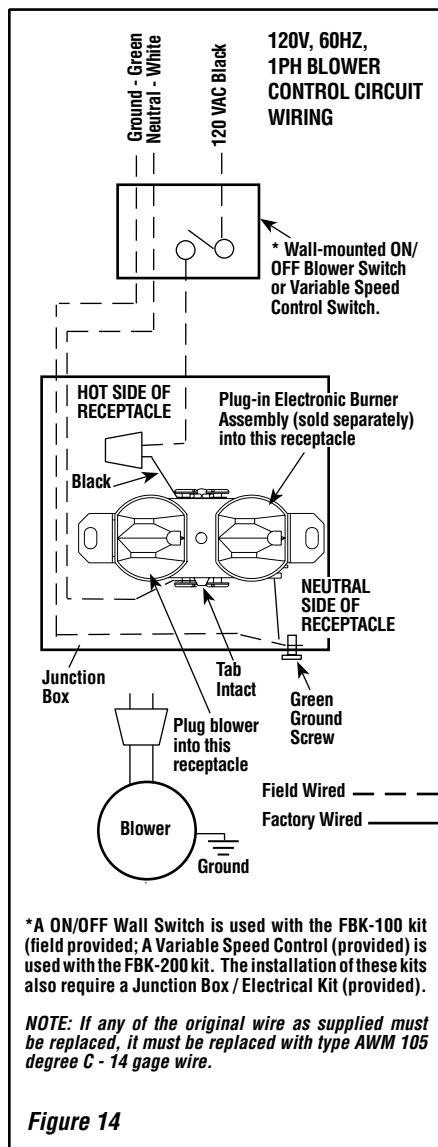
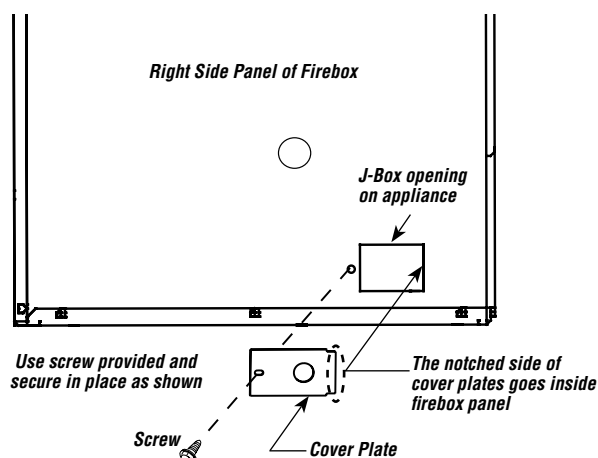

Figure 14
Figure 22 - Installing J-box Cover Plate - All Models
Step 8. Ensure that power supply wires are NOT "live" before making these connections. Install J-Box Cover Plate as follows: Feed the * Romex wires (or other equivalent plastic insulated wire - Refer ANSI/NFPA 70 - National Electrical Code - Latest Edition) through the J-Box Cover rectangular opening, then connect to the J-box wires. The strain relief bushing (not supplied) should be pressed into the knock-out on J-box cover around the Romex (this will provide protection to the wires and prevents strain against connections from J-box). See Wiring Diagram - **Figure 14**. Install the cover plate over J-Box opening on appliance as shown in **Figure 22**.